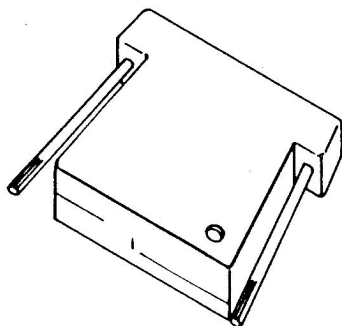

Fig. 7 Terminator plug
- The terminator plug, depicted in Figure 7.